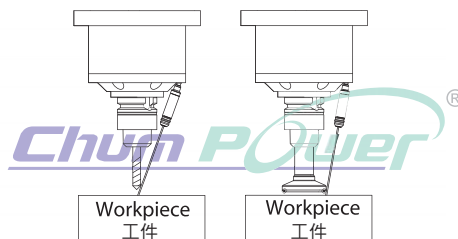

Fig. 1. Drilling Fig. 2. Face Milling
- The main purpose is for the operator to correct the angle of coolant water and to prevent the operator from being sprayed by the coolant water. Leading by the laser coolant pointer can be adaptable for every kinds of cutting process (as Fig.1 and Fig.2).